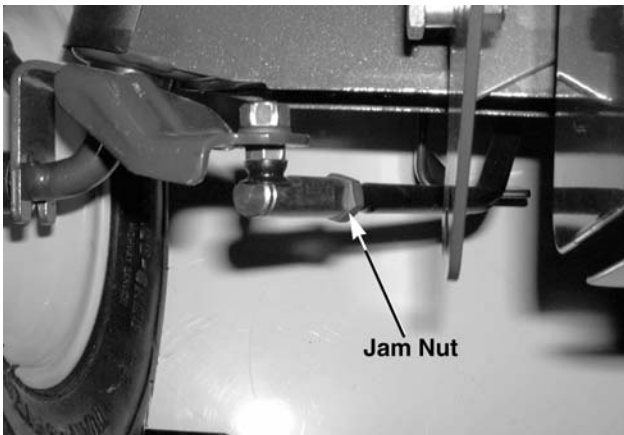

Figure 9-65
9. Loosen the jam nut at the rear of the right ball joint that secures the ball joint to the drag link using a 1/2" wrench and an 11/16" wrench. See Figure 9-65.